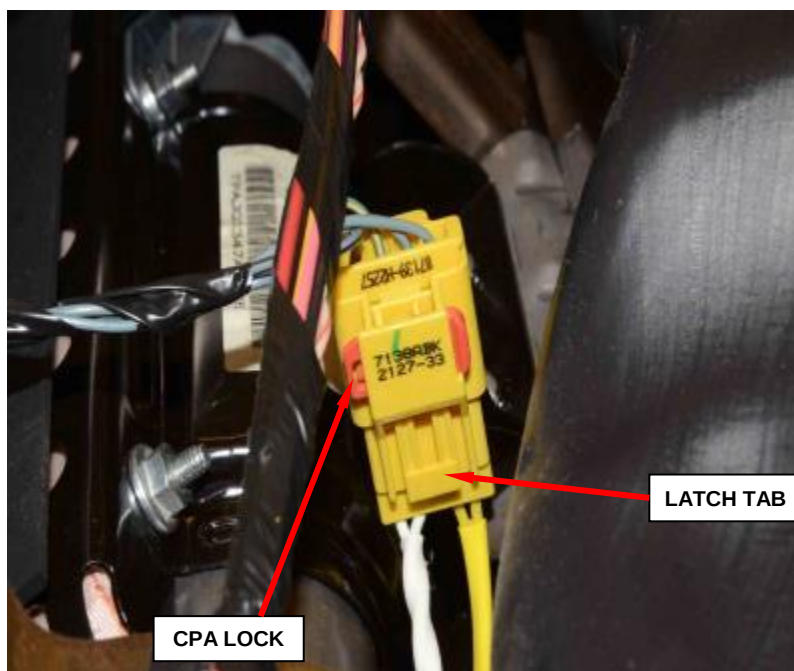

Figure 143 - Airbag Inflator Pigtail Connector
26. Remove the bolt and nut and disconnect the grounds on the right A-pillar (Figure 143).
27. Disconnect the antenna cable (143).